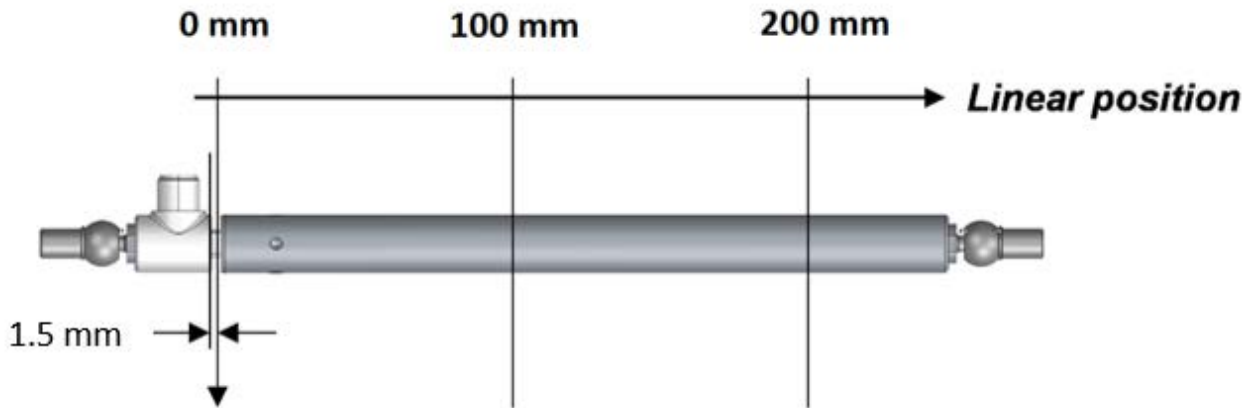

Figure 10. Mechanical position at 0 mm
- **ZERO:** Figure 10 and Trace 1 show the mechanical position of the sensor and PDO1, which contains the associated measurement, respectively.